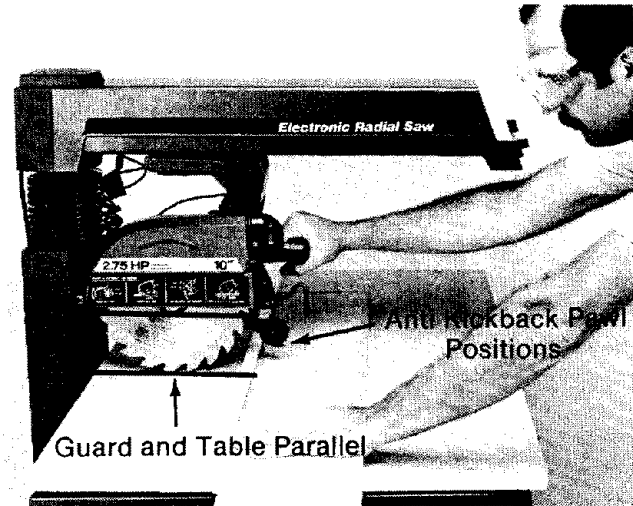

Fig. 145 Crosscut Blade Guard and Body Position
**WARNING:** To reduce the risk of contact with the upper half of the blade and keep the workpiece from jamming in the guard, set the blade guard in the horizontal position. Fig. 145.
**⚠ WARNING:** The blade guard must be horizontal to provide protection from contact with the upper half of the blade and avoid the workpiece being jammed in the blade. Set the blade guard in the horizontal position. Fig. 145.